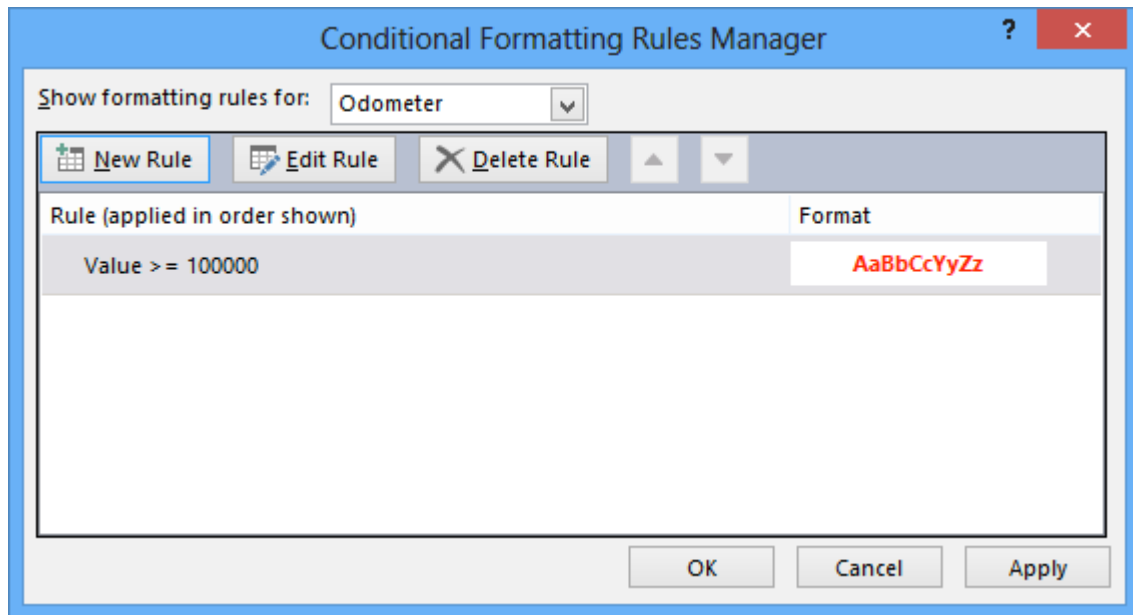

Figure 53: Formatting Rule Displayed in the Conditional Formatting Window
3. Click **OK** to see the formatting rule in the Conditional Formatting Rules Manager window (Figure 53).